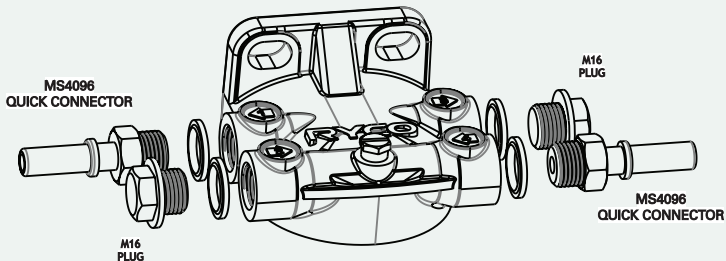

FIGURE 6
- 3 Install the Ryco fuel water separator head with metal quick connectors, blanking plugs and rubber bonded washers as shown in FIG.6. Tighten blanking plugs (on Port 2 & 3) and quick connectors (on Port 1 & 4).